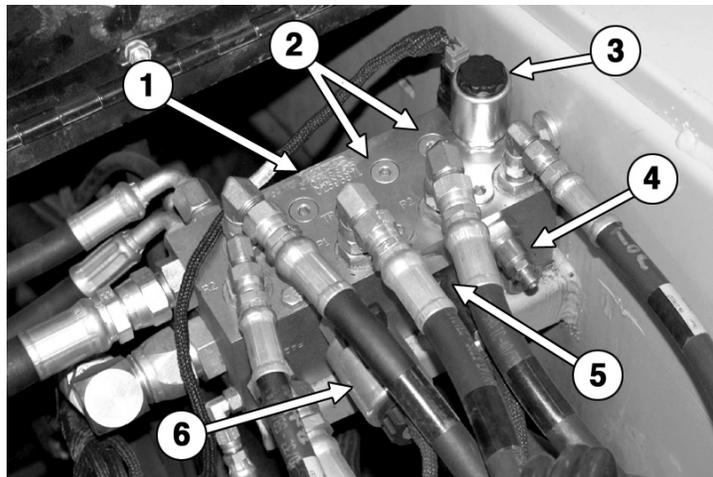

Figure 5
The load sense checks (2) are located on the top of the auger, conveyor, spreadroll manifold (See figure 5).
* Bad or contaminated load sense check valves can cause erratic stand-by pressures. (See figure 5 to identify location of load check valves).